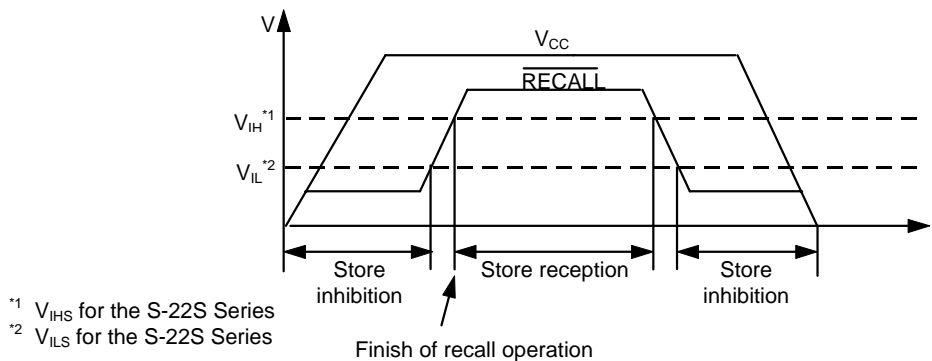

Figure 9 STORE inhibition period and reception period at power ON and OFF
- $\overline{\text{RECALL}}$ goes $V_{\text{IL}}(V_{\text{ILS}})$ when power turns on or off (see Figure 9).